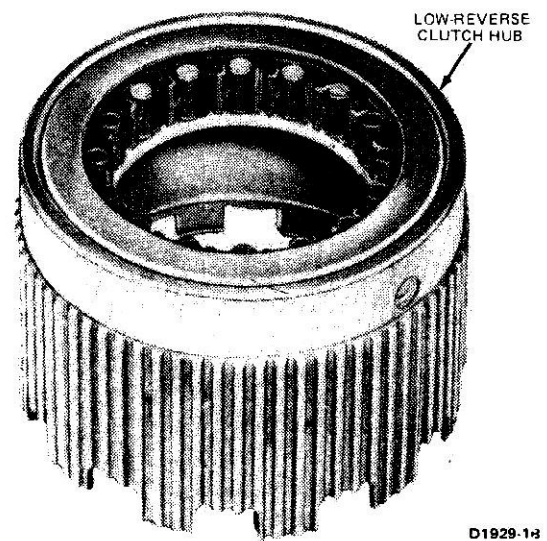

FIG. 54 One-Way Clutch Installed
2. Place the low-reverse clutch hub on the bench with the forward end down (Fig. 54).